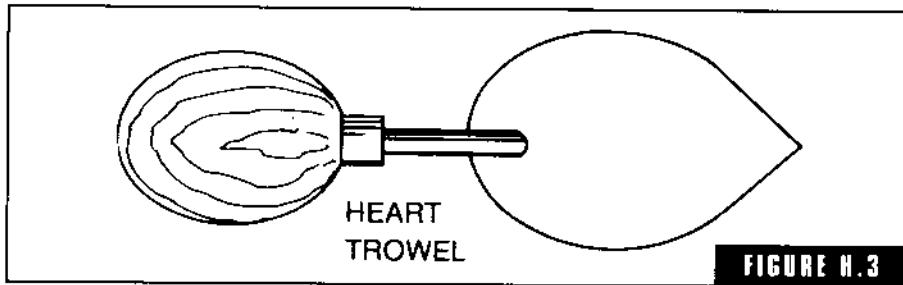

FIGURE H.3
**heart trowel** The heart trowel is a handy little trowel for general molding and, as its name implies, has a heart-shaped blade. They run in size from 2 inches wide to 3 inches wide in  $\frac{1}{4}$ -inch steps (Fig. H-3).